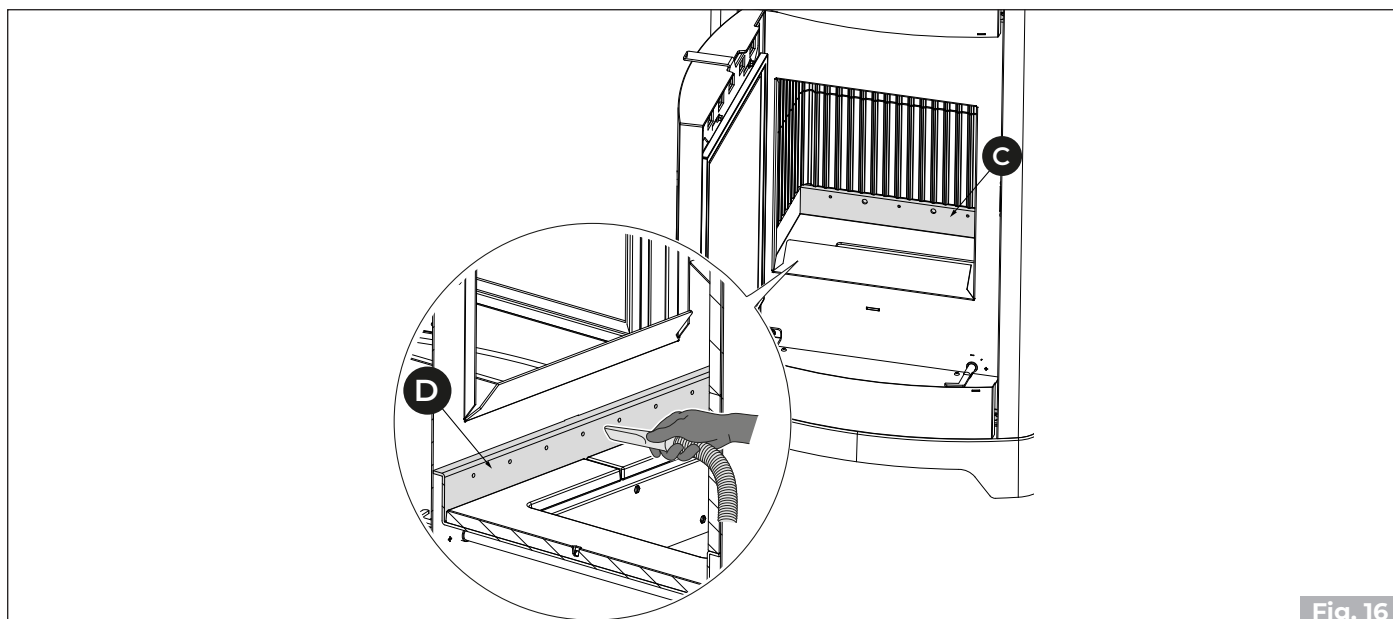

Fig. 16
- 3) Vacuum the rear (C) and front holes (D - if any) of the combustion air distributor in order to prevent ash from accumulating (Fig. 16).